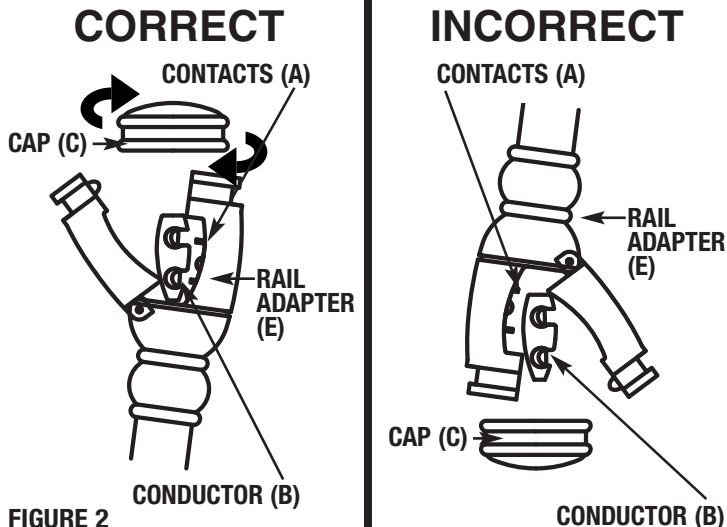

FIGURE 2
2. Unthread cap (C) from rail adapter (E).
3. Making sure contacts (A) will align with conductors (B) on rail, set the bottom of rail adapter (E) to the bottom of the rail and "roll" rail adapter (E) up onto the rail (Fig.2).
4. Close the hinged door of rail adapter (E) over the rail and thread cap (C) back onto rail adapter (E).